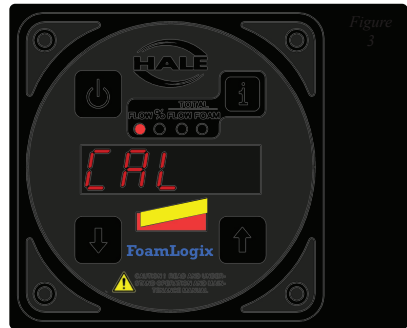

Figure 3
- Release the DISPLAY (i) button. The display shows **CAL** for 2 seconds indicating the calibration mode has been entered. (See Figure 3 in the next column.)